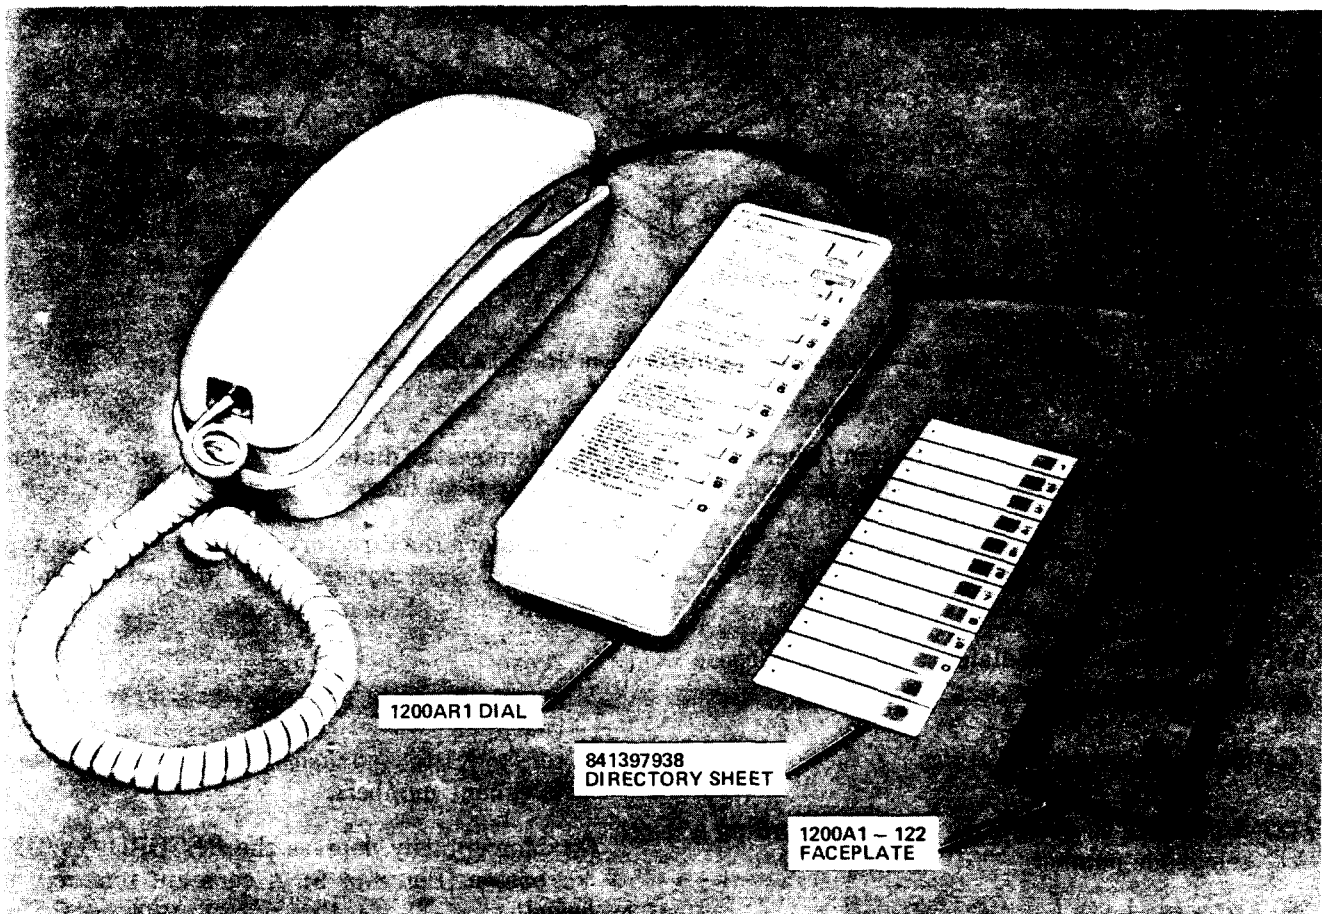

Fig. 6— 1200AR1 Dial With Faceplate and Directory Sheet Removed
- (1) Remove the dialer faceplate (Fig. 6 or 7) using fingernail in slot at top.
- (2) Remove the directory sheet and write or type the desired name(s) and number(s). Replace the directory sheet on the dialer.